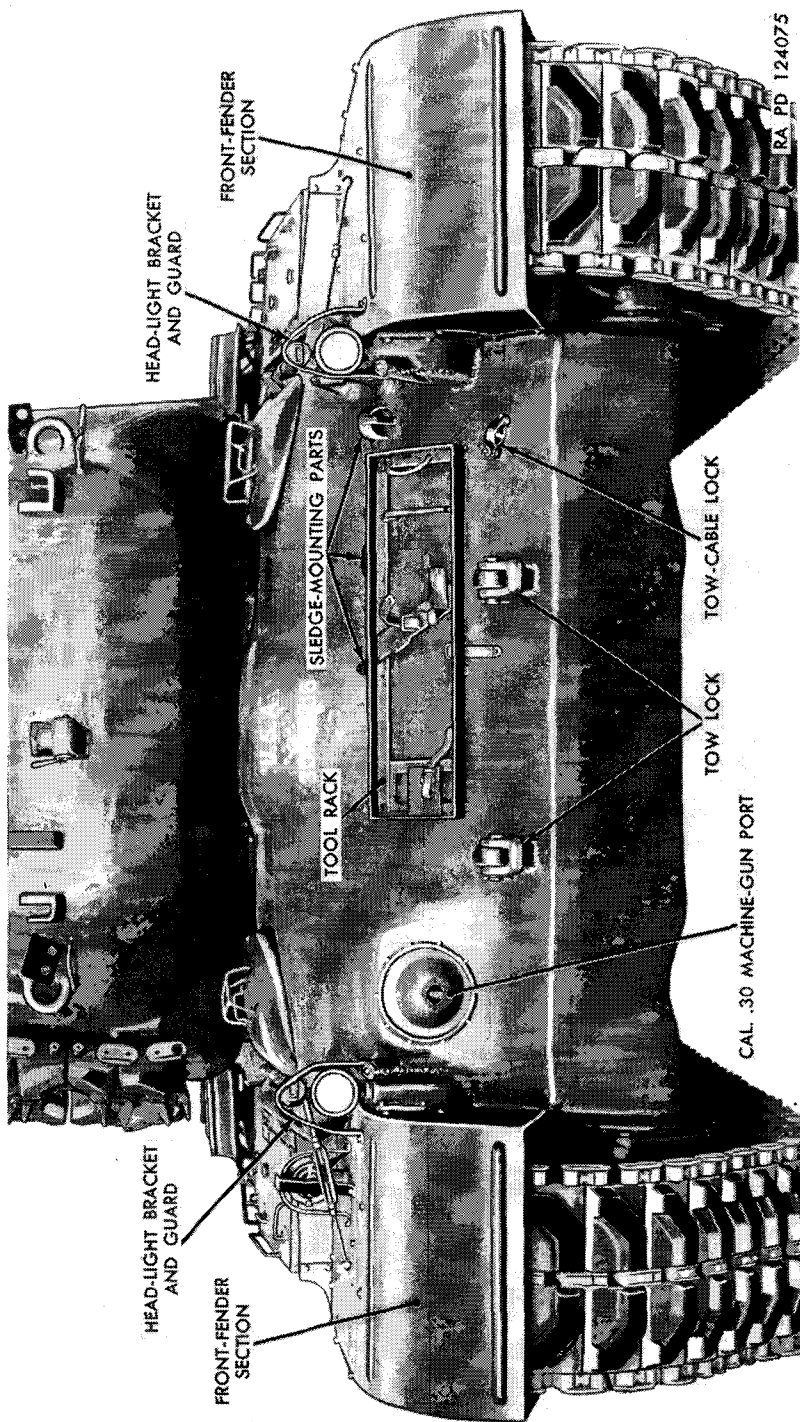

Figure 6. Exterior of medium tank M46 prior to installation of bulldozer M3.
a. Remove the tools and tool rack (fig. 6) and cut the six mounting blocks from the hull.